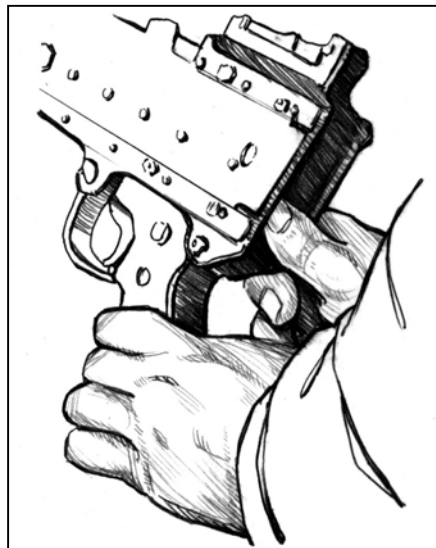
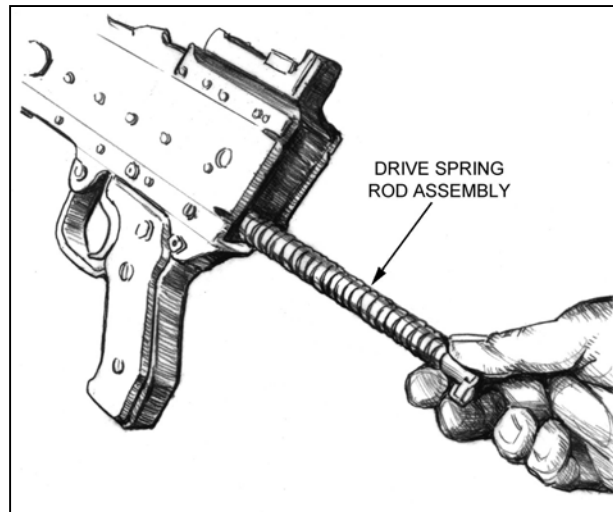

Figure 3-12. Removal of driving spring rod assembly.
Figure 3-13. Driving spring rod assembly.
b. **Remove the Driving Spring Rod Assembly.** Push the driving spring rod assembly forward and up to disengage its retaining stud from inside the receiver (Figure 3-12). Pull rearward on the drive spring rod assembly, removing it from the receiver (Figure 3-13).